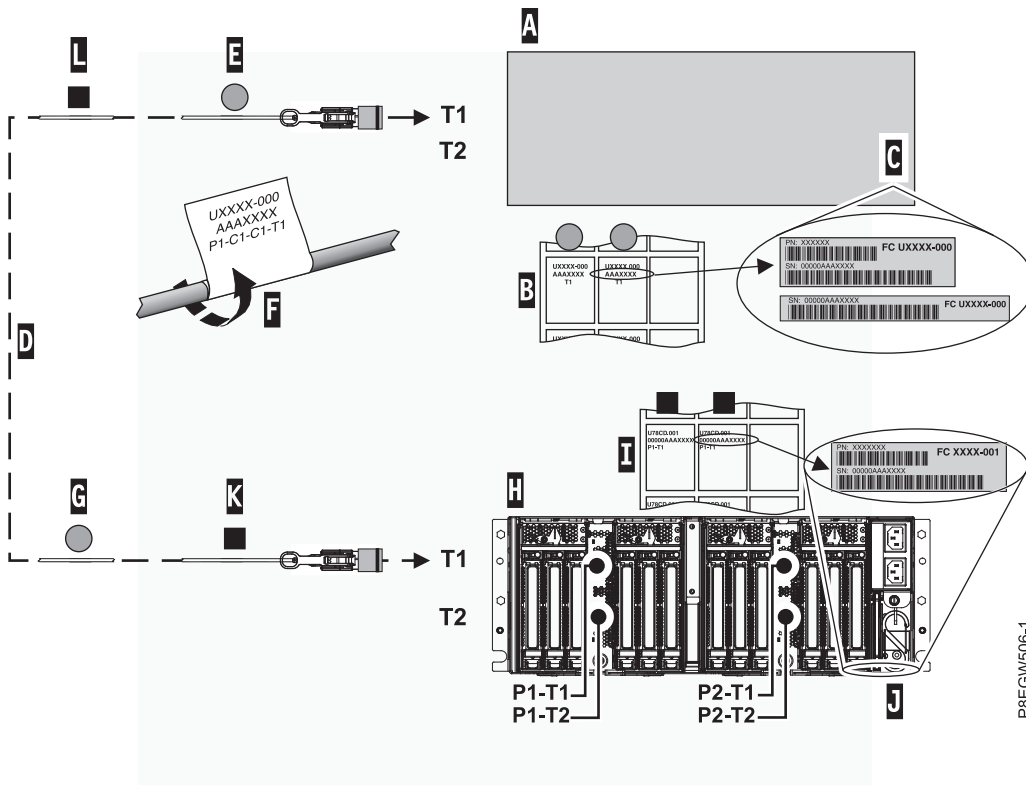

Figure 17. Labeling an active optical cable
Note: While you are completing these steps, refer to Figure 17 on page 22 as a reference.
- g. Attach the leftmost Cx-T1 label to the connector end of the cable **(E)**. See Figure 17 on page 22. Wrap the label with the blank end first so that the location information **(F)** is visible.
- h. Take the second label Cx-T1 from the host system label sheet (B) and place it on the opposite end of the cable that attaches to the EMX0 PCIe3 expansion drawer. Ensure that the label is placed more than 100 mm (4 in) from the end of the cable (G). See Figure 17.
Note: While you are completing these steps, refer to Figure 17 as a reference.
- a. Locate the EMX0 PCIe3 expansion drawer (H) that you are connecting to the host system.
- b. Locate the EMX0 PCIe3 expansion drawer serial number label sheet (I).
- c. Match the EMX0 PCIe3 expansion drawer serial number (J) to the serial number shown on the EMX0 PCIe3 expansion drawer label sheet (I).
- f. Attach the leftmost Px-T1 label to the connector end of the cable (K). See Figure 17. Wrap the label with the blank end first so that the location information (F) is visible.
- g. Take the second Px-T1 label from the expansion drawer label sheet and place it on the opposite end of the cable greater than 100 mm (4 in) from the end of the cable (L). See Figure 17.